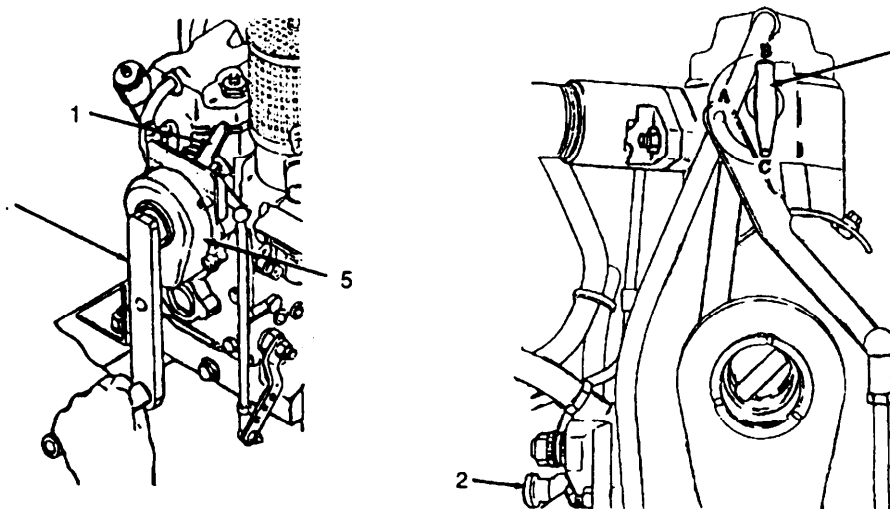

Figure 2-7. Engine Controls.
(5) Move throttle lever (1), Figure 2-7, to START position.